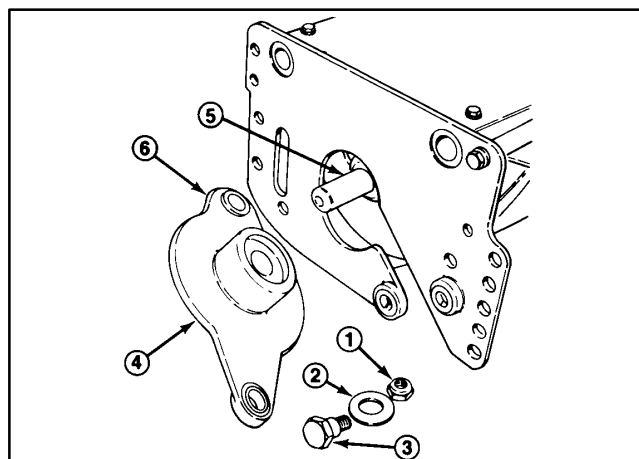

Figure 21
2. Remove shoulder bolts, bushings and spacers from each end of the unit and remove the bedbar/bedknife assembly (Fig. 21).
3. Remove inboard locknut from the adjuster pin, the fasteners for the bracket and remove the adjusting handle assembly from the side plate (Fig. 21).
1. Inspect flange bushings in the mounting holes of the drive housing and bearing housing for wear (Fig. 21). Replace, if necessary.
7. Insert shoulder bolt through the Belleville washer and rear housing mounting hole. Slide bolt through the side plate mounting hole (Fig. 21). Install the cone nut locknut onto the bolt. Tighten the cone nut to 45 to 55 ft-lbs (6.2 to 7.6 kg-m).